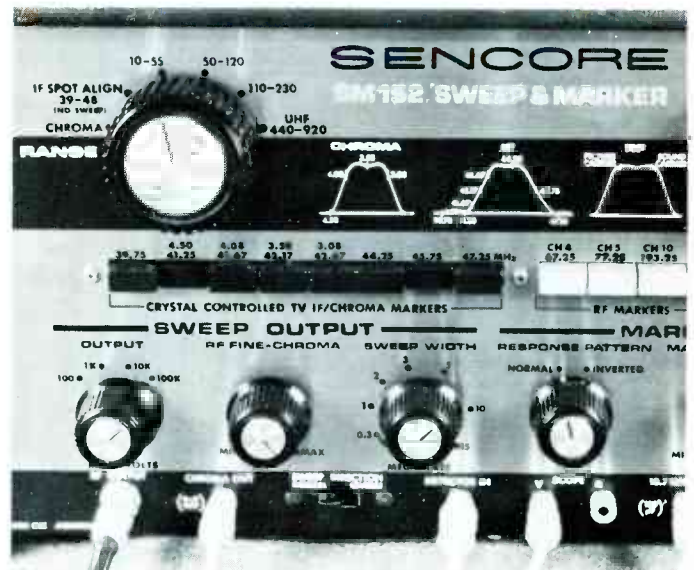

Fig. 6C Positions of controls of the SM152 generator during link alignment.
4. The picture in Fig. 6C shows the approximate knob settings of the SM152 for link alignment. Switch on the 42.17-MHz, 45.75-MHz and 47.25-MHz markers. Vary the scope gain to produce a normalized curve on the scope.